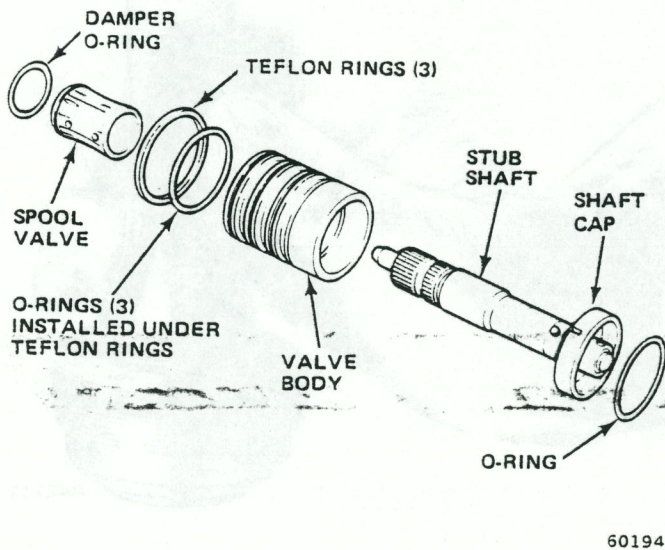

Fig. 2L-27 Valve Body Components
(2) Hold valve body assembly in both hands with stub shaft pointing downward. Tap end of stub shaft lightly against wood block until shaft cap is free of valve body (fig. 2L-28).
(3) Pull stub shaft outward until shaft cap clears valve body by approximately 1/4 inch (6 mm).